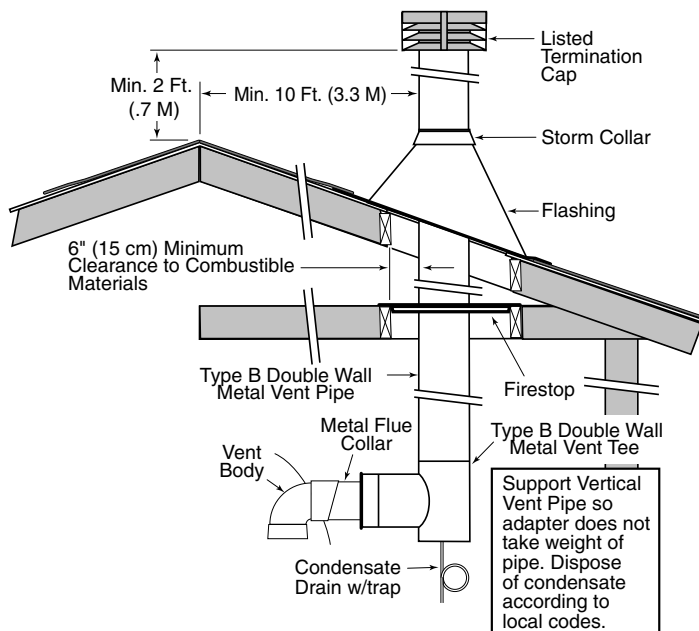

FIGURE 12A: Typical Metal Vent Pipe Installation-Canada (Vertical – Negative Pressure)
6. Vent Termination – Vertical (See Figures 12A and 12B, Page 13, for height of vent termination above the roof. See Table 7, Page 15, for Listed terminations.) Use a Listed vent terminal specified by local and national codes and your manufacturer's instructions. A roof termination must be vertical. In Canada, the Vent Cap location shall have a minimum clearance of 4 feet (1.2M) horizontally from electric meters, gas meters, regulators, and relief openings.